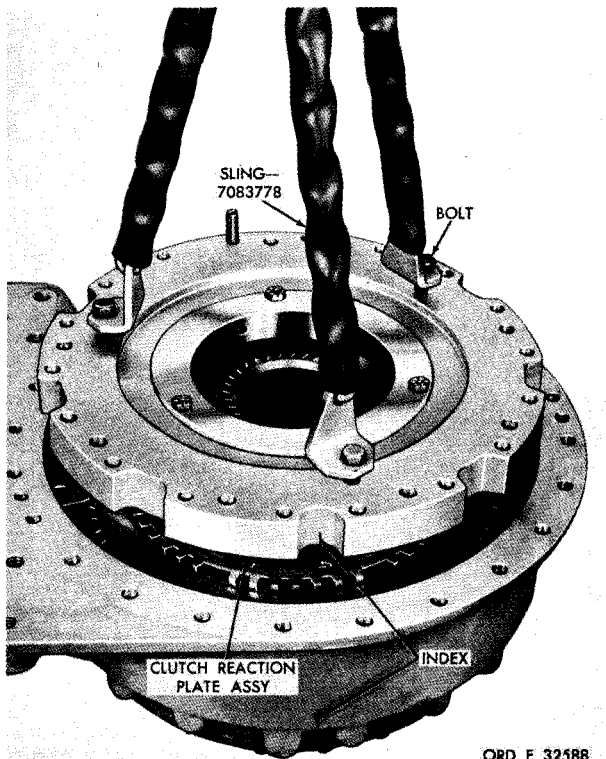

Figure 169. Installing clutch reaction plate assembly
o. Using sling 7083778 and three 7/16-14 bolts, install clutch reaction plate assembly (fig. 169).